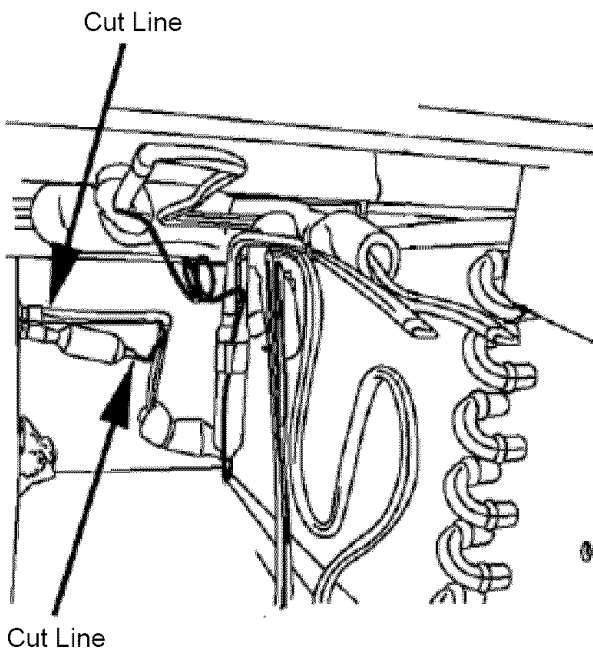

Figure 6
18. Cut the suction line and the cap tube in the machine compartment. (See figure 6).